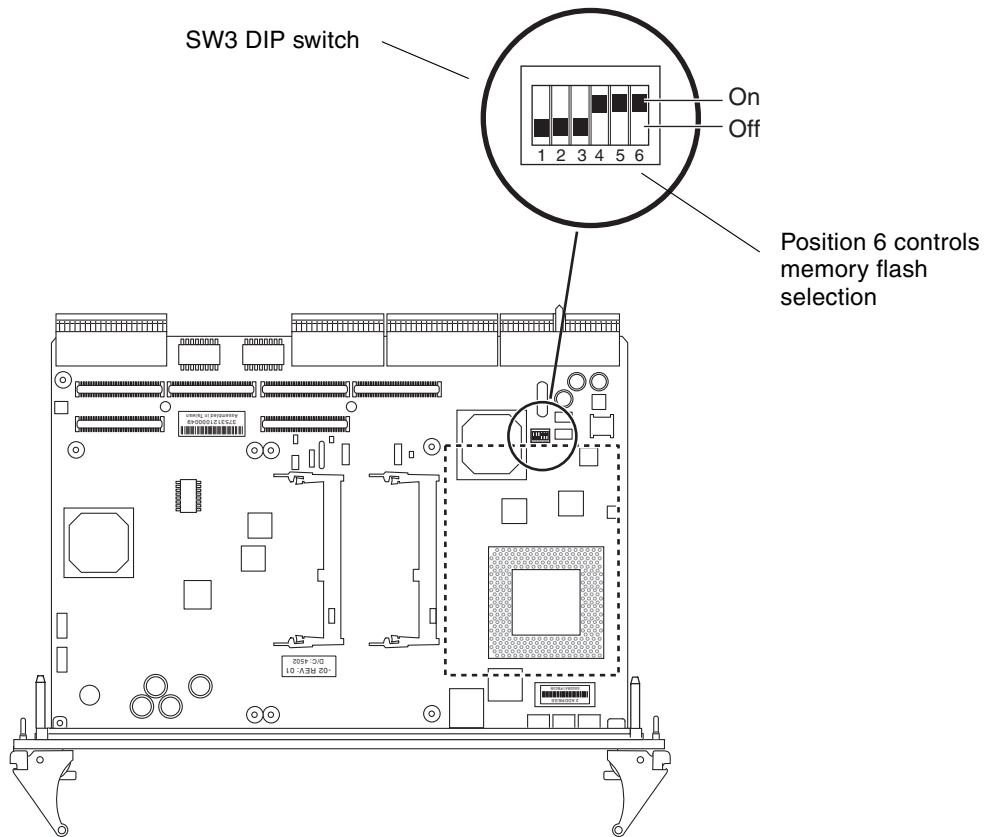

FIGURE 4-4 SW3 DIP Switch Location
The SW3 DIP switch is located slightly under the heat-sink on the board. FIGURE 4-4 shows the location and default setting of the SW3 DIP switch.
5. To set the flash memory selection, set the SW3 DIP switch position 6 to off. See FIGURE 4-4 for the location of the SW3 DIP switch.